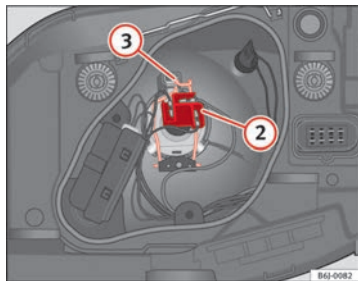

Fig. 154 Dipped beam/
- Remove the connector ⇒ fig. 154 ② from the bulb.
- Unclip the retainer spring ⇒ fig. 154 ③ pressing inwards to the right.